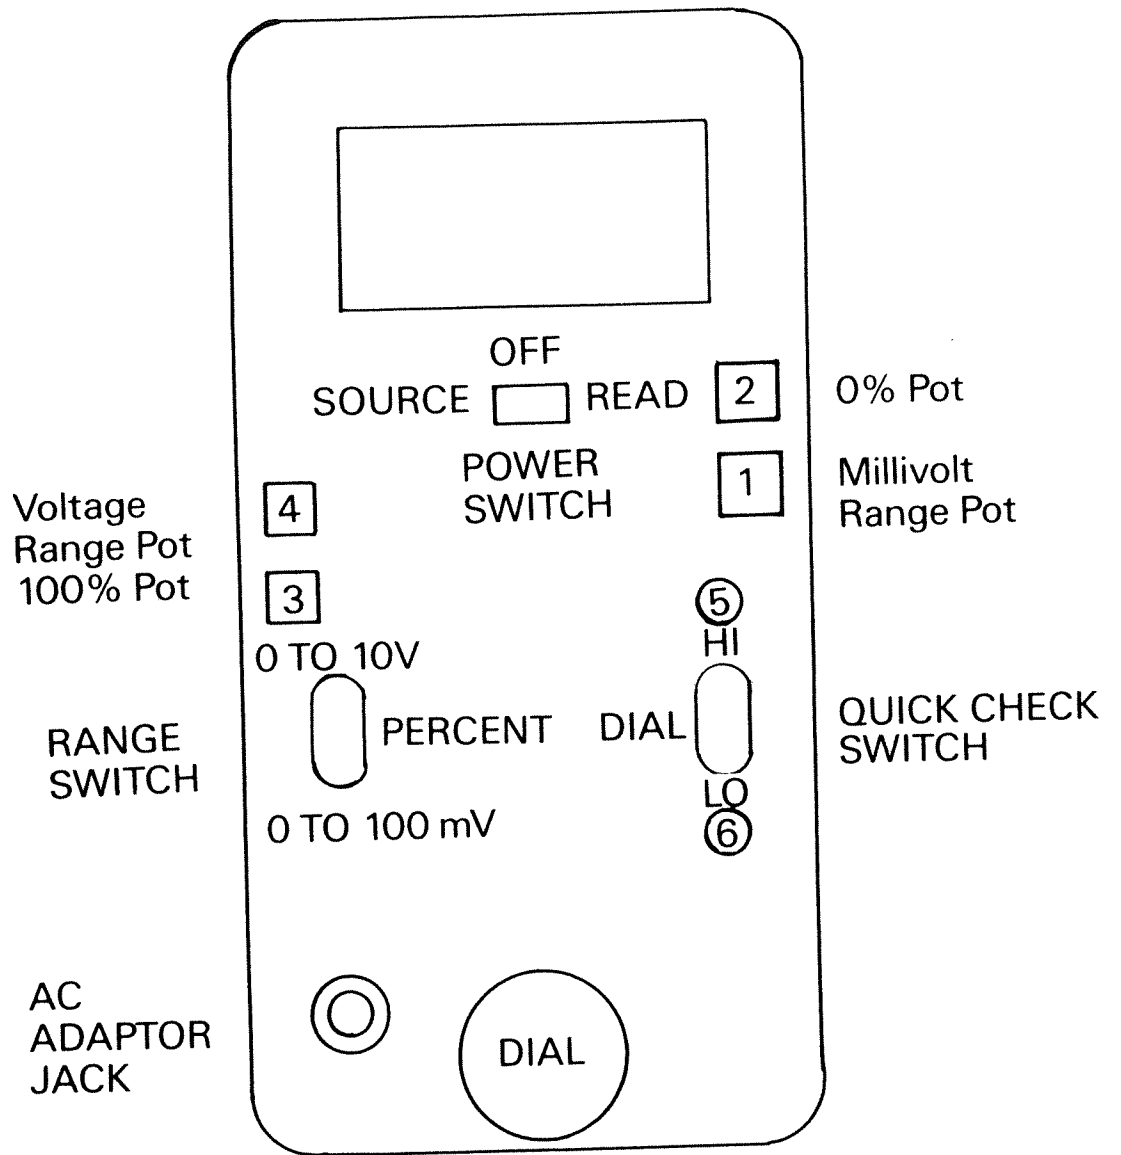

Figure 4-1 Front Panel
5. Using the Millivolt Range pot (pot 1 on Figure 4-1) adjust the CL-305 to read 160.0.
3. Using the 0% pot (pot 2 on Figure 4-1) adjust the CL-305 to read 00.0.
5. Using the 100% pot (pot 3 on Figure 4-1) adjust the CL-305 to read 100.0.
3. Using the Voltage Range pot (pot 4 on Figure 4-1) adjust the CL-305 to read 16.00.
Both the HI and LO Quick Checks should be adjusted to ensure proper operation. At this time the HI and LO (pots 5 and 6 on Figure 4-1) may be set to any required values (factory settings are  $1.000\text{ V}$  (0.0%), and  $5000\text{ V}$  (100%).